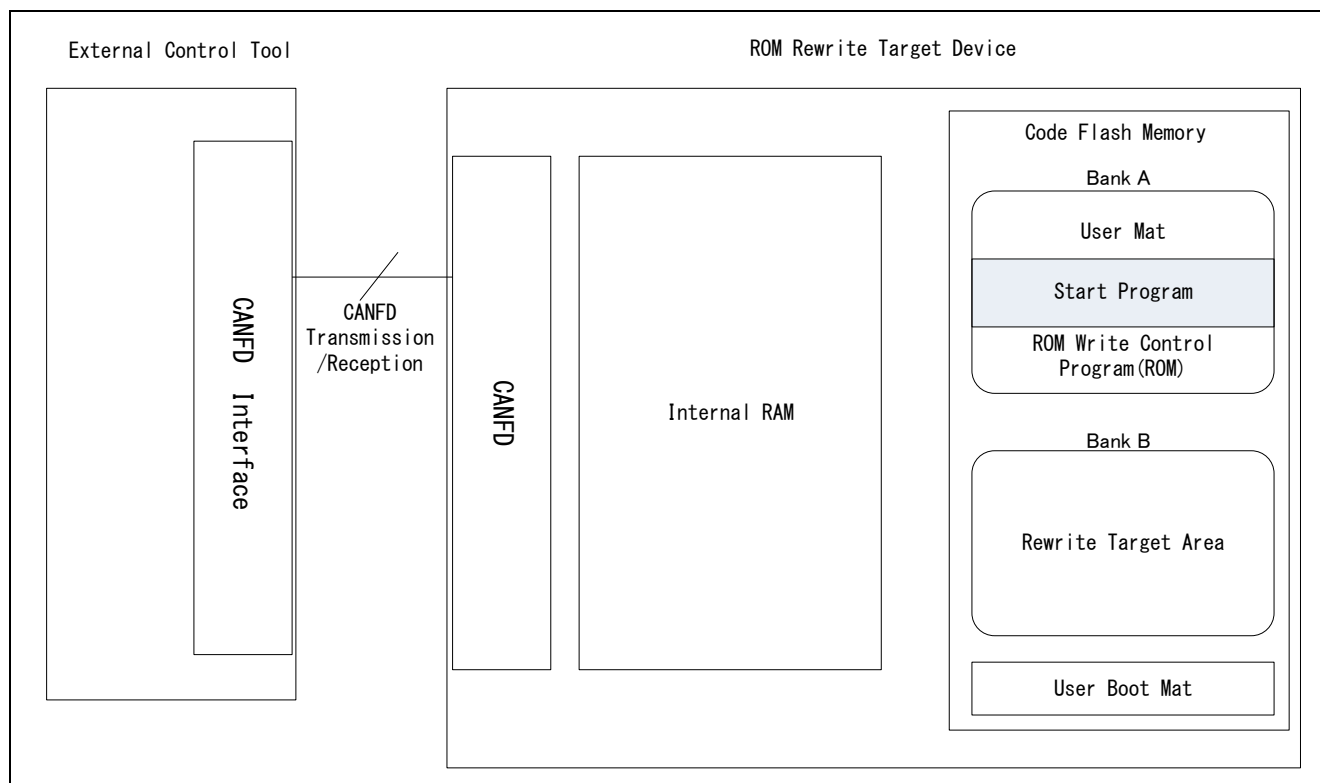

Figure 3-8 ROM Erase/Write Starting Operation
**Figure 3-8** shows the ROM erase/write starting operation.